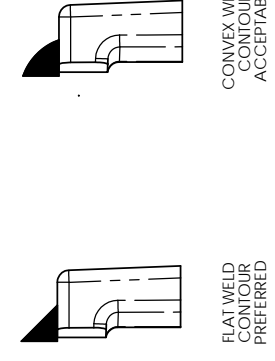

FIGURE 6
- Check for flat or slightly convex contour on front and rear. A concave contour is not allowed. Reference Figure 6 on sheet 1.
- Check for flat or slightly convex contour around the Upper Axle Adapter. A concave contour is not allowed. Reference Figure 6 on sheet 1.
- 7) EACH AXLE ADAPTER WELD MUST HAVE A FLAT OR SLIGHTLY CONVEX CONTOUR ON FRONT AND REAR. A CONCAVE CONTOUR IS NOT ALLOWED BECAUSE IT REDUCES THE THROAT DIMENSION OF THE WELD. SEE FIGURE 6.